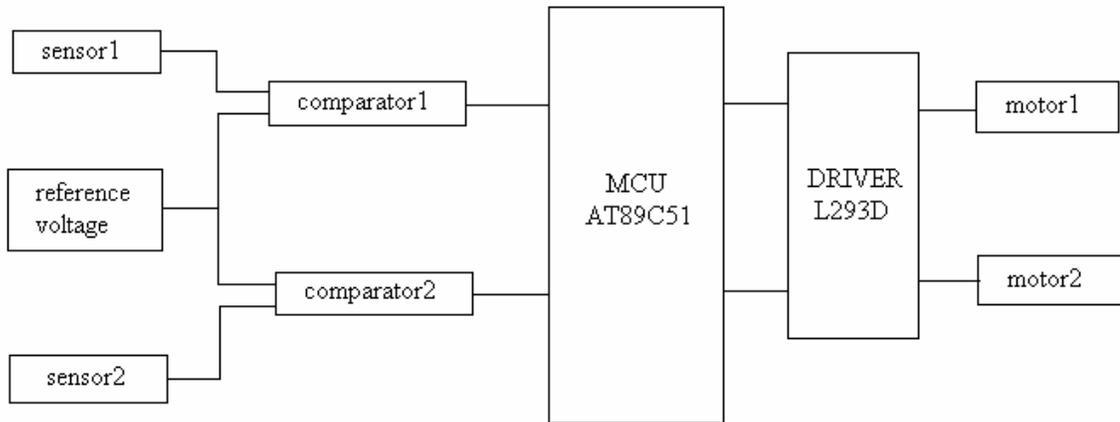

Figure 1.1 Block Diagram
- The basic block diagram of the light sensing robot is shown in figure 1.1.